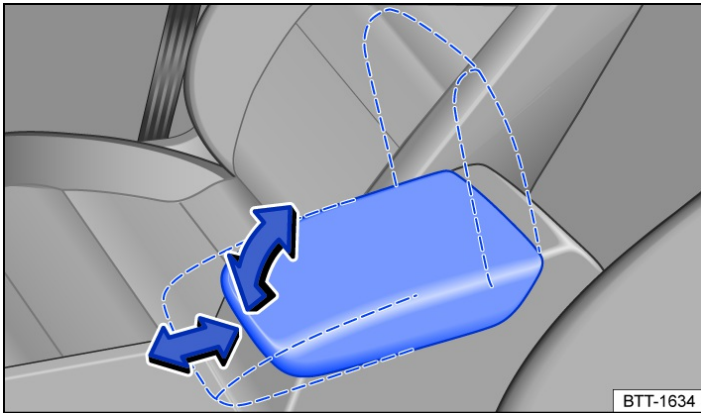

Fig. 1 Front centre armrest.
- To *lift*, pull the centre armrest up gradually in the direction of the arrow → Fig. 1.
- To *move it backwards and forwards*, push the centre armrest in the direction of the arrow → Fig. 1 all the way forwards or all the way backwards.